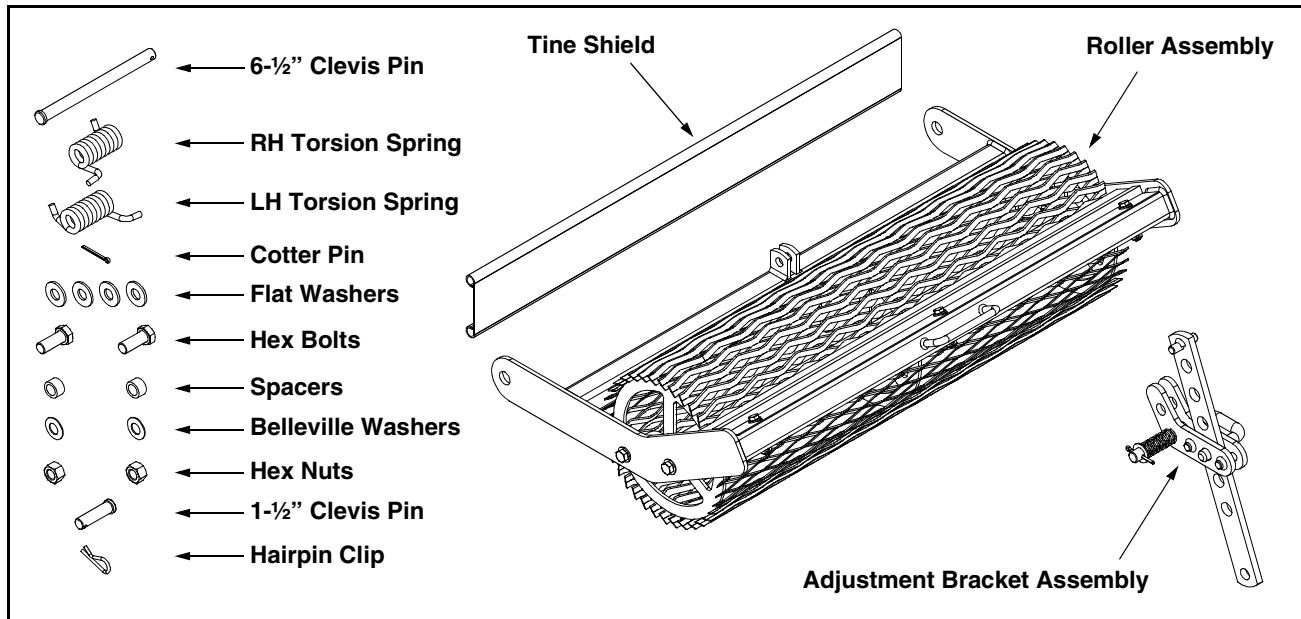
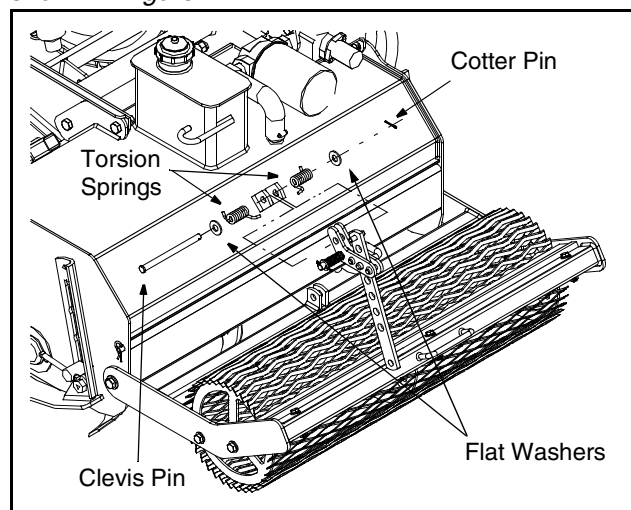

Figure 1
Figure 4
- Using this hardware, join the front portion of the adjustment bracket assembly, refer to Figure 1, to the rear of the tiller housing as illustrated in Figure 4.
**NOTE:** The LH torsion spring and the RH torsion spring are NOT interchangeable. Refer to Figure 1 to distinguish them. Be certain to position the springs as shown in Figure 4.